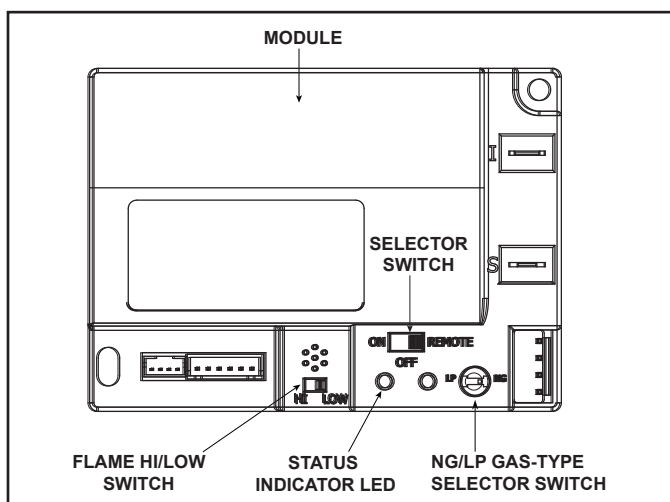

Figure 3.3 Control Module
1. The control module has an ON/OFF/REMOTE selector switch that must be set. See Figure 3.3.
2. If using a wired wall switch with the module in REMOTE mode, the flame output can be adjusted with the HI/LO selector switch on the module. See Figure 3.3. Note that the flame HI/LO selector switch will become inactive once an optional remote control is programmed to the control module. Note that the control module will always ignite the fireplace on HI and remain so for the initial 10 seconds of operation. If the HI/LO is switched to the LO position, the flame output will automatically drop to the lowest setting after the flame has been established for 10 sec. After this 10 second period, the flame can be adjusted from HI to LO with the switch.
- Locate the module selector switch. (See Figure 3.3).